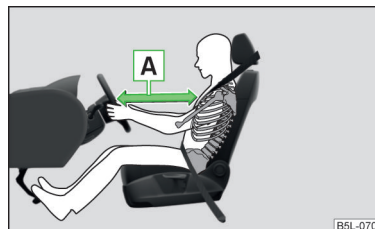

Fig. 9
- For the driver and front passenger, it is important to maintain a distance of at least 25 cm from the steering wheel or dashboard **[A]** » Fig. 9. Not maintaining this minimum distance will mean that the airbag system will not be able to properly protect you - hazard! The front seats and the head restraints must always also be correctly adjusted to match the body size of the occupant.